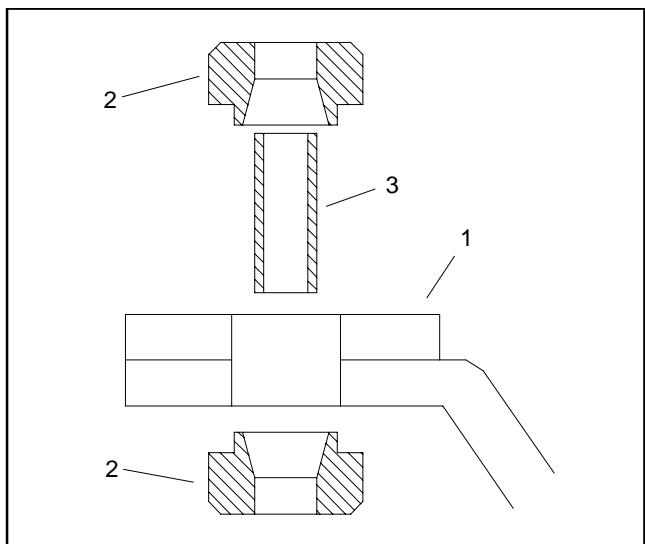

Figure 13
A. Make sure that engine mounts are correctly assembled to mounting straps (Fig. 13). Position engine mounting plate assembly under machine.